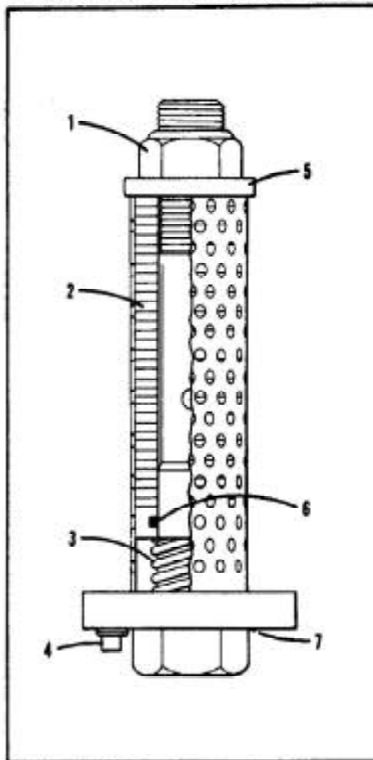

Fig. 8-2
ed in the bottom of the fuel tank should be replaced after the first week of operation and once a month thereafter. (Often under dusty conditions.) The filter has a paper disc type element, Fig. 8-2 and can be removed by removing the four capscrews which hold it into the bottom of the tank.
- (a) Drain tank by removing plug from bottom of filter assembly. (See (4) in Fig. 8-2.)